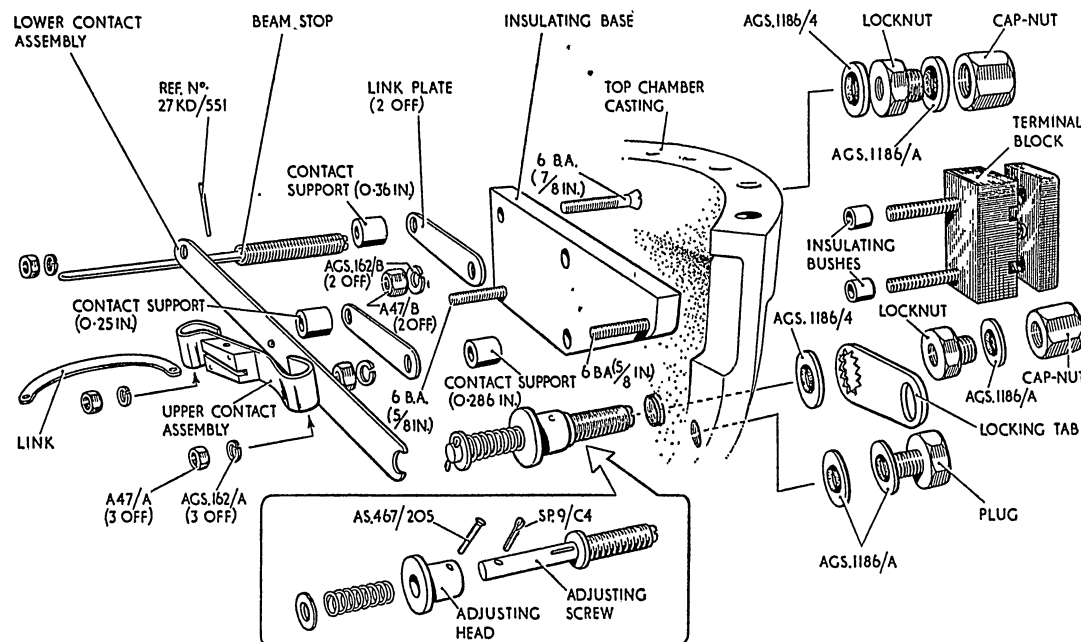

Fig. 9. Switch mechanism
Switch mechanism (fig. 9)
24. (1) Fit the locking tab (fig. 9). The serrated hole in the tab fits over the lock-nut of the contact adjusting screw, and the blanking plug fits through the plain hole, with one of the two seals on each side of the tab.